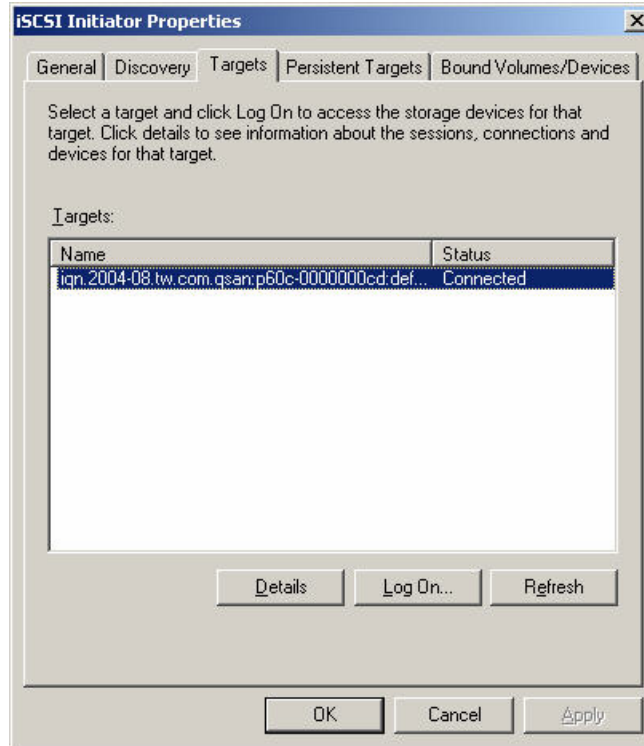

Figure D.7
8. Click **“OK”**. The status would be **“Connected”**. Please see Figure D.7.